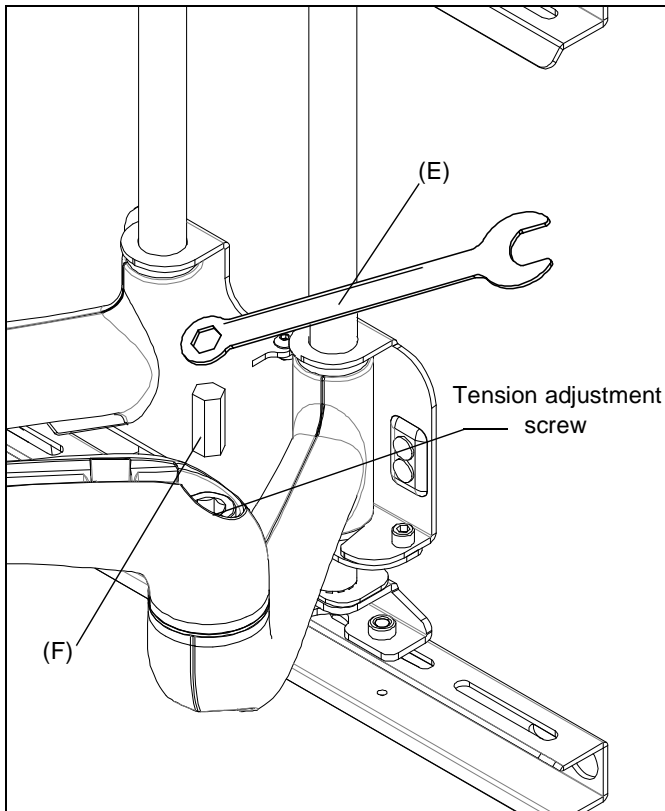

Figure 15
1. Place adjustment insert (F) into tension adjustment screw located at swing arm pivot point. (See Figure 15)